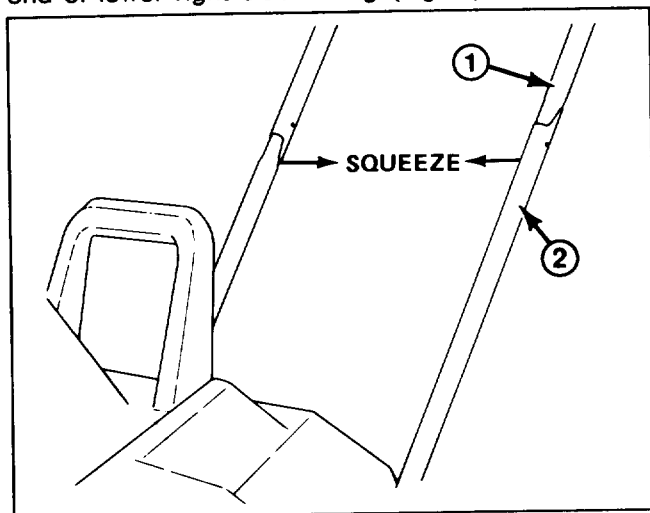

Figure 1
2. Carefully insert right side of upper tubing over end of lower right side tubing (Fig. 1).
3. Carefully insert left side of upper tubing into end of lower left side tubing (Fig. 1).
4. Squeeze upper tubes together as shown in Figure 1. Wiggle upper tubes down until mounting holes in upper and lower tubing are aligned (Fig. 1).